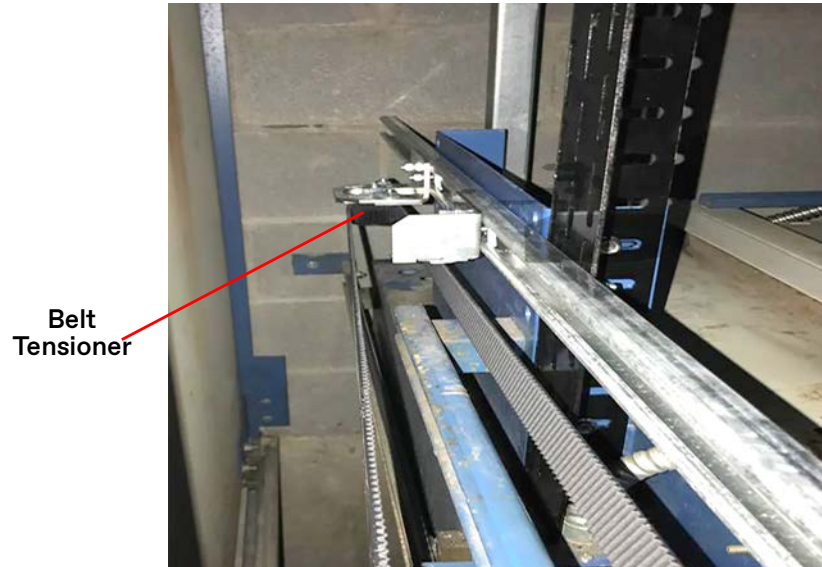

Figure 8 - Belt Tensioner Installation
8. Install the belt tensioner behind the door open stop bracket with 2 inches of clearance of both sides for belt stretch. See Figure 8.